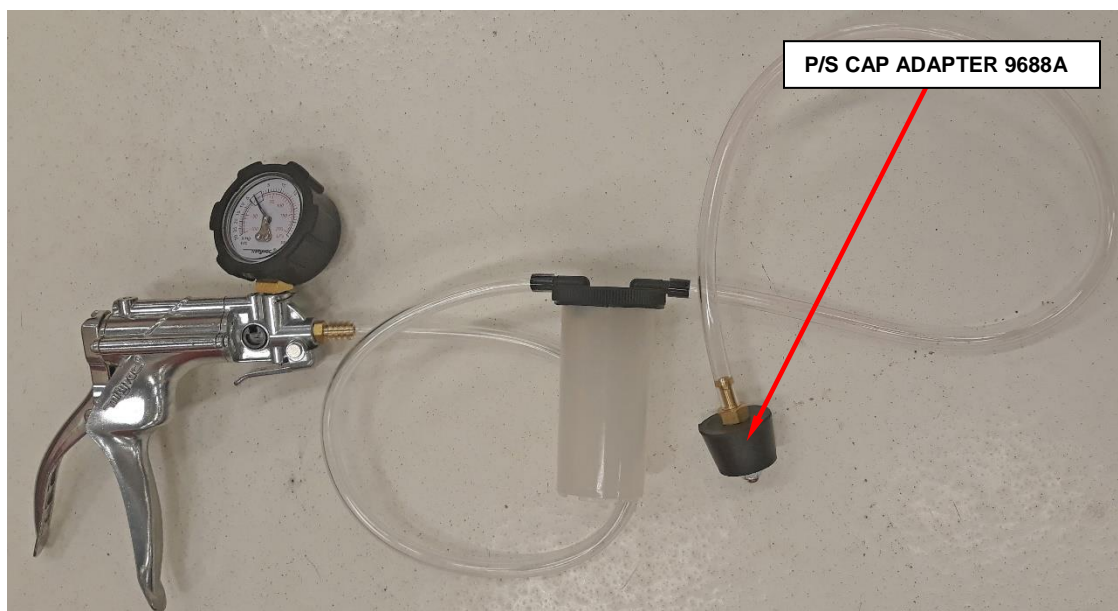

Figure 12 – Vacuum Tool Assembled
2. Assemble the vacuum tool as show in figure 12.